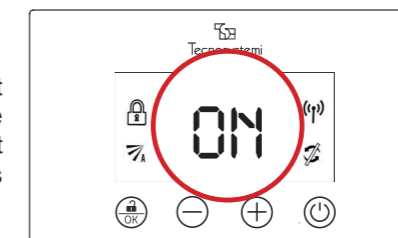
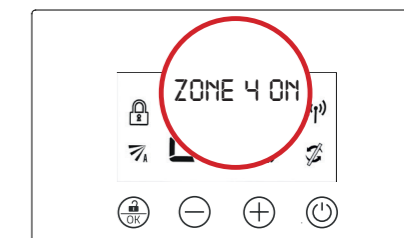

Fig.6
Fig.7
3.1 **Chronothermostat Setting:** With reference to fig. 6, press the  key for 3 seconds checking the wording ON (fig. 7).